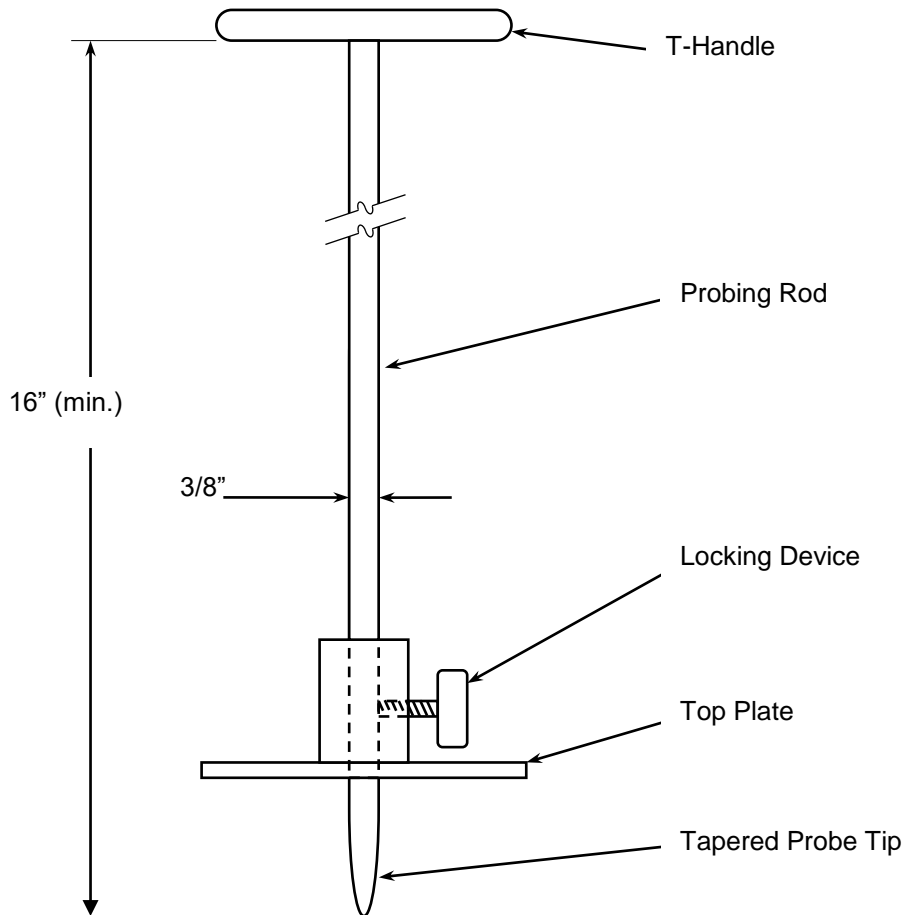

Figure 2.1) Thickness Probe
- 2.1 Thickness Probe (Fig. 2.1) – The thickness probe shall be rigid, made of a durable material that is non-reactive with Portland cement concrete.